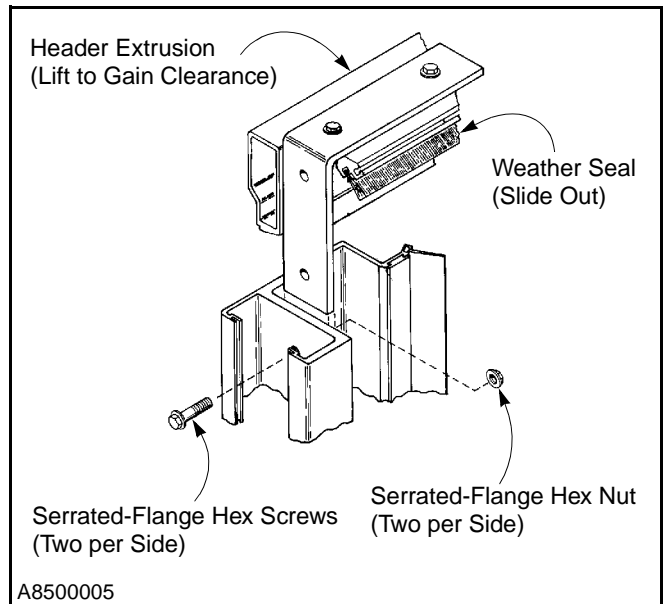

Figure 82
1. From either side, remove two serrated-flange hex screws and nuts securing header extrusion and support bracket to side column. (See Figure 82.)